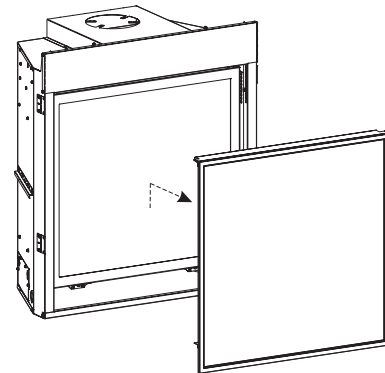

Figure 4
1. Make sure power is turned off prior to any removal. Lift screen and pull away from the unit. **See Figure 4.**
20. Replace barrier screen removed in step 1. **See Figure 4.**